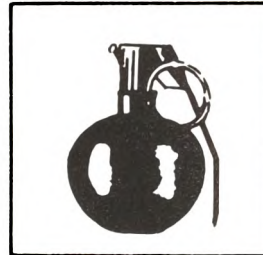

Figure 4.
- (1) Fragmentation grenade with time delay fuze: M67 (fig. 4), M26A1 or M56 (fig. 3) and the M33 (fig. 1). These grenades are your best all around choice. They can be thrown a little over 40 meters by most soldiers and will kill or injure exposed soldiers that are within 15 meters of them when they explode. You should, with some practice, be able to throw the grenade to within 5 meters of a selected point 35 meters away from you or within a fighting position 2 meters wide at 20 meters range. Grenades thrown at these targets may hit and roll into the target area, but you should practice to hit the fighting position 'on the fly' in order to destroy positions with frontal cover. Another technique which can be employed with these grenades is the cook-off. To do this you release the safety lever and hold the grenade for a two count (YOU MUST NOT HOLD IT LONGER, HOWEVER).